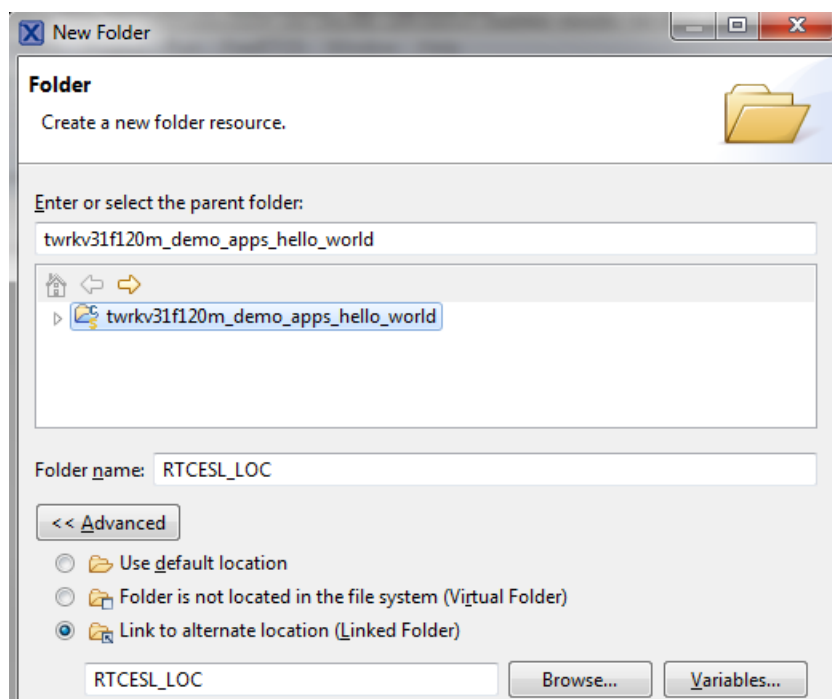

Figure 1-6. Folder link
4. Click Variables..., select the RTCESL_LOC variable in the dialog, click OK, and/or type the variable name into the box. See Figure 1-6.